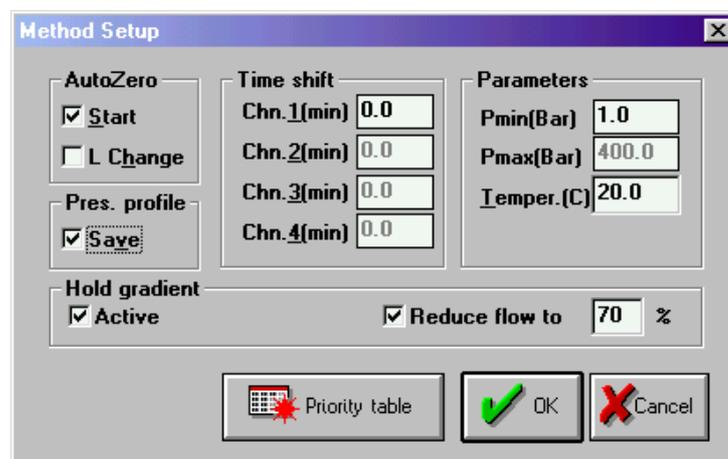

FIGURE 3-3 The Method Setup Box
- c) Select **Active (Hold gradient region)** to enable the holding option of the gradient and select **Reduce flow to** to set the appropriate flow rate for the Micropump (FIGURE 3-3).